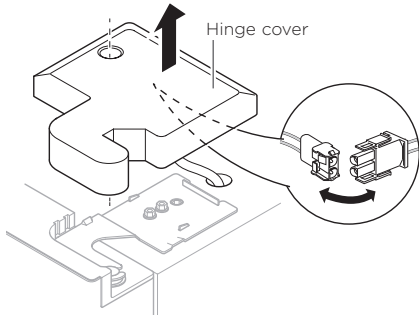

Fig.5 Removing hinge cover
- ① Undo the hinge cover screw and remove the cover (Fig.5), the clips holding the cover must be released first. Unclip the front section of the hinge cover, then push the cover towards the centre of the appliance and pull upwards to release.